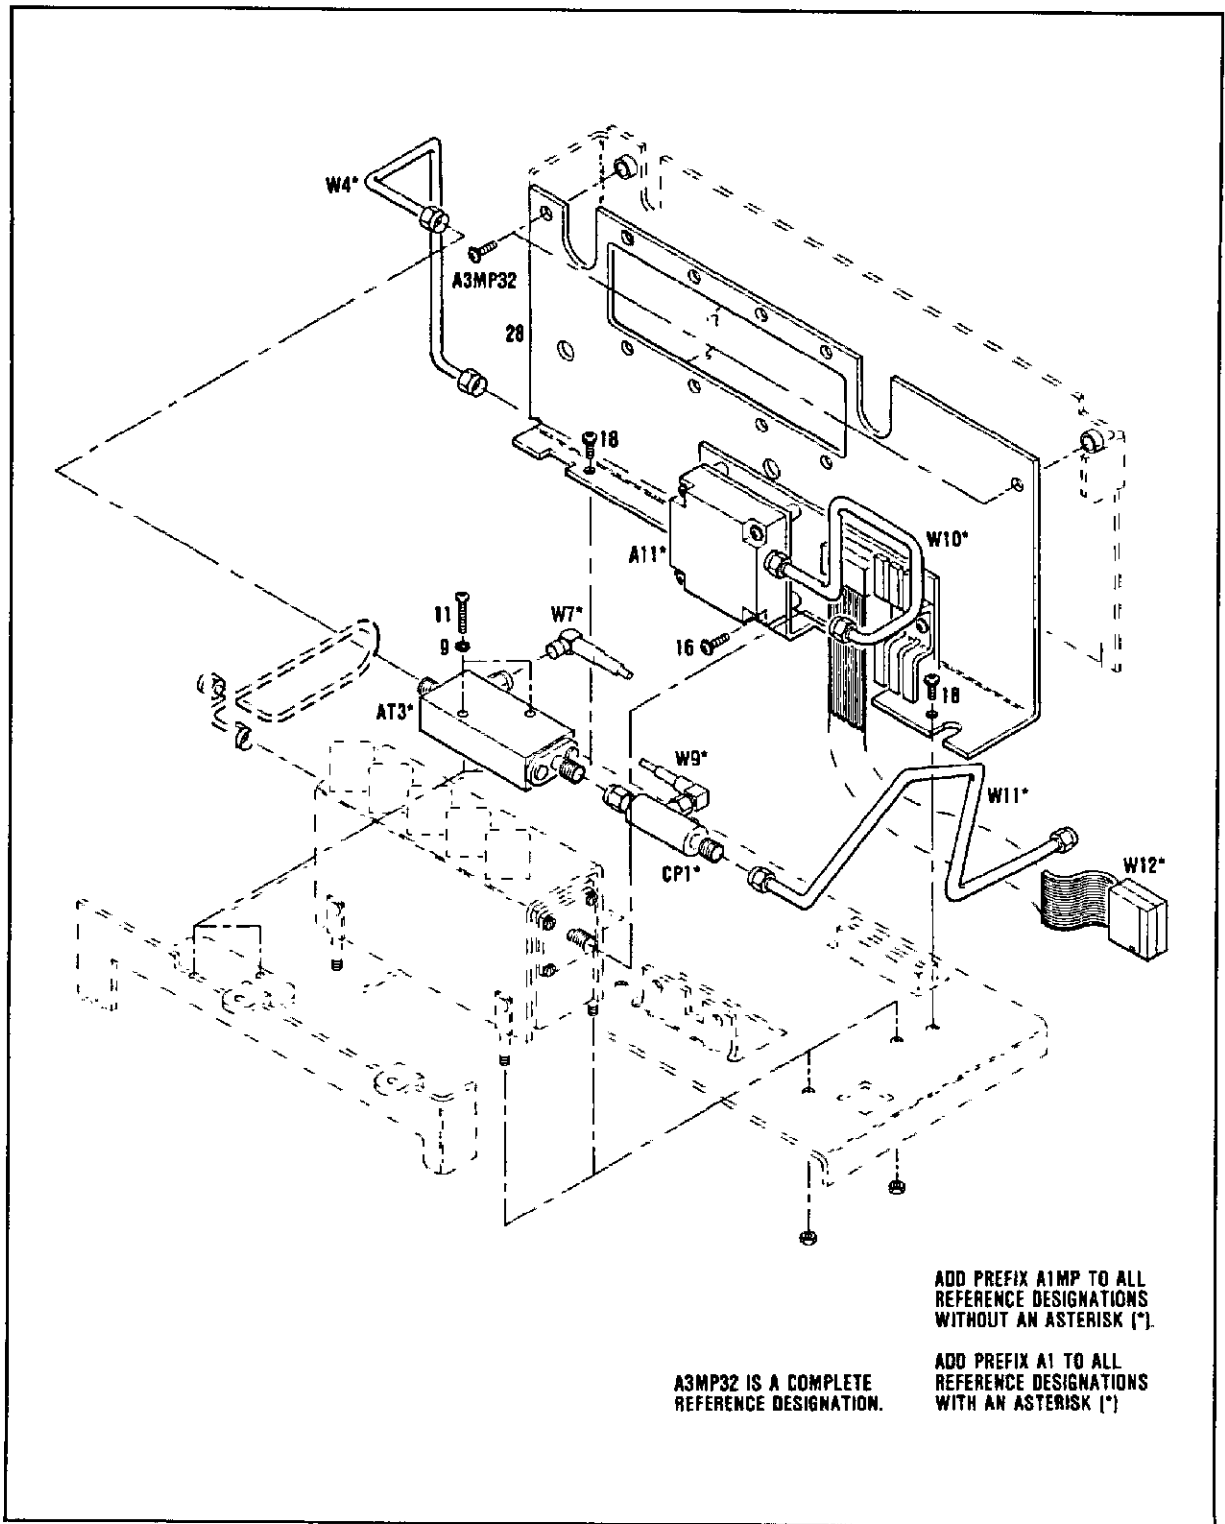

Figure 8-56. Bias Tee
21. Set Both LINE switches to OFF then remove the bias tee A1CP1 (see figure 8-56) Using the DVM, measure the resistance between: